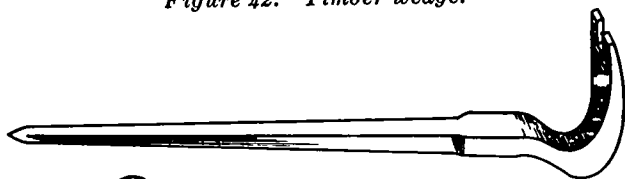

Figure 41. Using the machete.
c. Machete. The machete (fig. 40) is a long (18 inches) knife. The blade is widest and heaviest at the point. The handle is shaped to fit the hand and has a slight projection at the end to prevent the machete from slipping during use. The machete is particularly valuable for cutting tall grass, vines, and small brush (see fig. 41). Make sure you have room to swing the machete